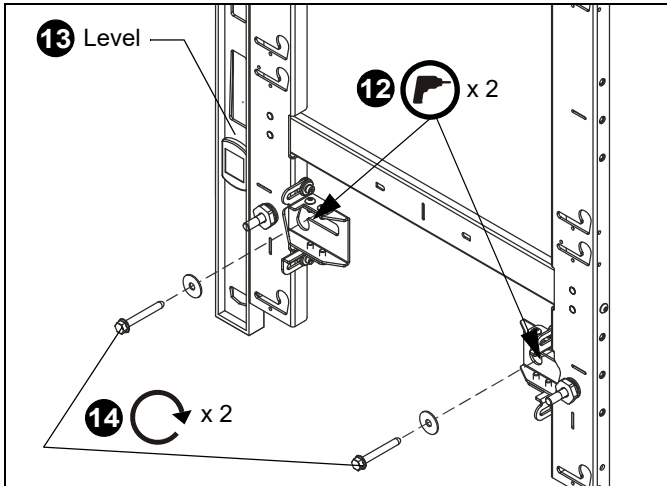

Figure 11
12. Drill pilot holes in centerline of lower slots (see Table 1 for size) and follow fastener information (appropriate for wall type) located in Table 1. (See Figure 11)
13. Double check the level of the mount along the side of the mount. (See Figure 11)
14. Fully tighten the 5/16 x 2-1/2" lag screws (C) through the 5/16" fender washers (D). (See Figure 11)